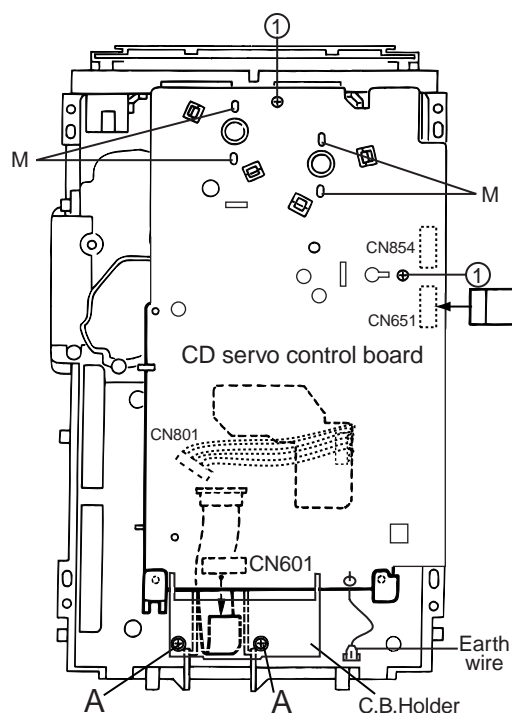

Fig.1
■ Removing the CD Servo control board (See Fig.1)